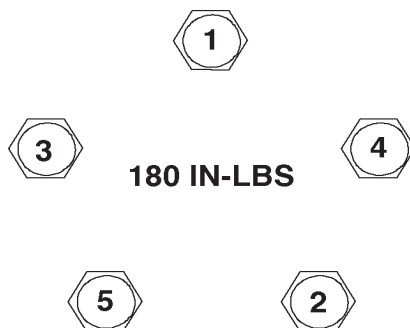

FIGURE 4. BEARING HOUSING TORQUE SEQUENCE
- XII. Generously oil the front bearing race and install the front bearing housing with gasket. Torque the bolts to 180 in-lbs. See Fig. 4.